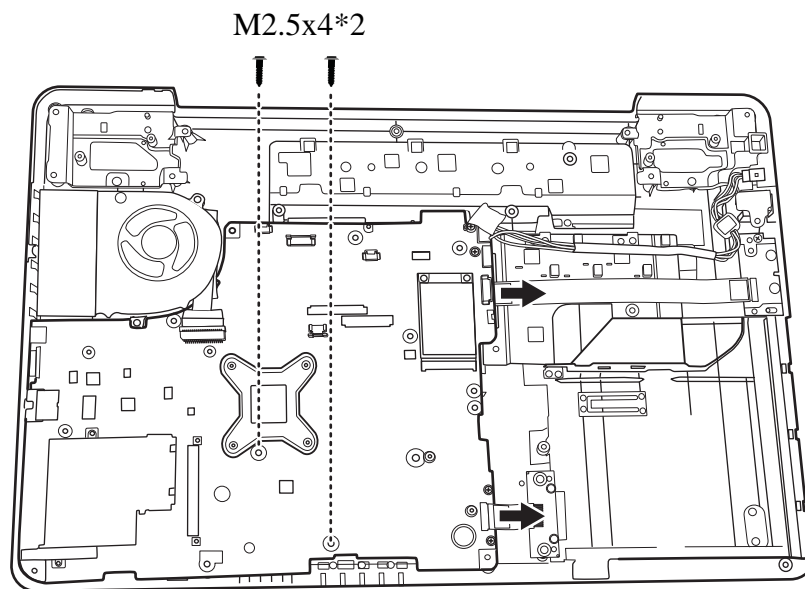

Figure 4.22 Removing the motherboard from logic lower assembly
1. Remove two M2.5x4 screws and two cables from the logic lower assembly as indicated by arrows in Figure 4.22.
6. Attach two cables to the motherboard as indicated by the arrows in Figure 4.22.